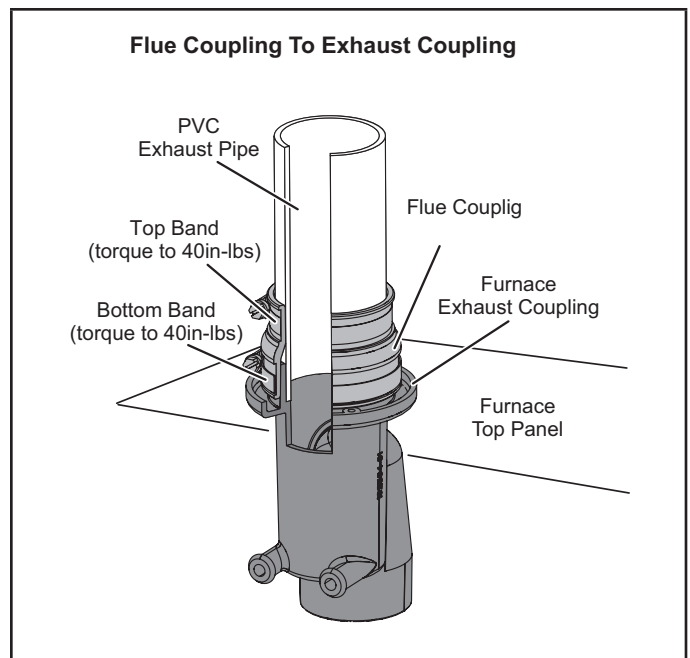
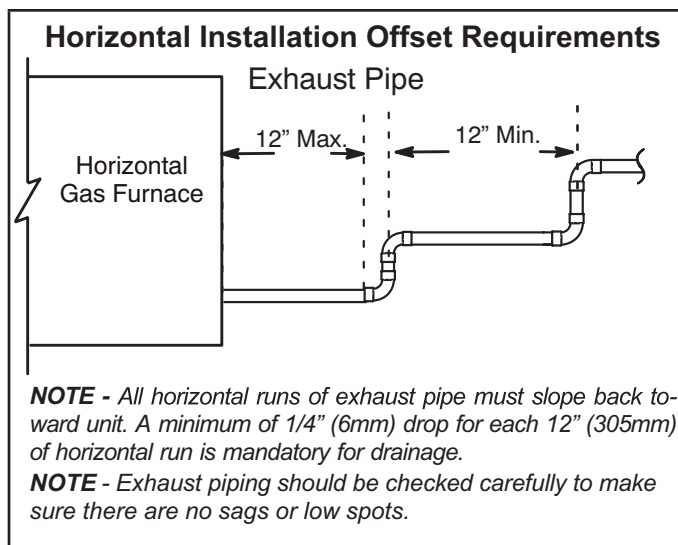

FIGURE 19
FIGURE 20
NOTE - Vent pipe must be installed with flue coupling See FIGURE 19.
Exhaust Piping (FIGURE 19, FIGURE 20, FIGURE 22 and FIGURE 23)
- 4 - Tighten both top and bottom bands to 40in-lbs. See FIGURE 19.